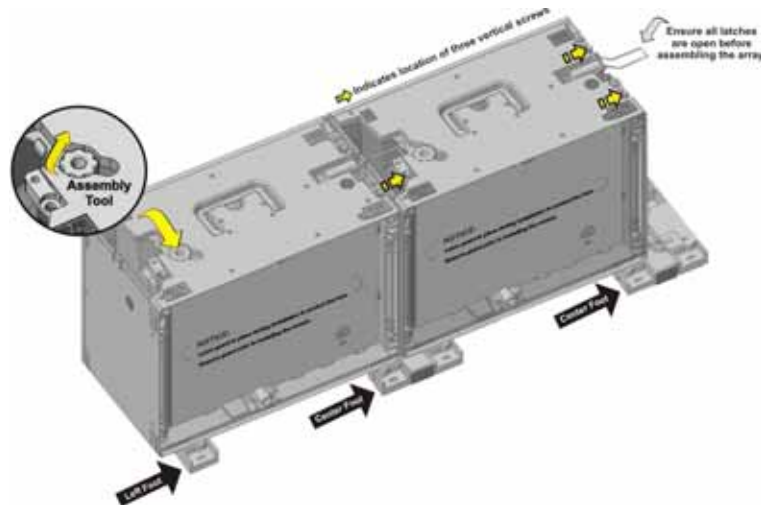

Figure 2-8 Assemble Second Tile in First Row
- Assemble the next tile in the array to a center leveling foot only (**Figure 2-8**). Using the assembly tool, hand-tighten the two vertical screws to attach the tile to the center foot. **DO NOT** completely tighten the screws to allow for adjustments. Line the tile with the center foot to the previous tile with left and center feet (**Figure 2-8**). Using the assembly tool, hand tighten the vertical screw on the second tile to attach it to the center foot of the previous tile.